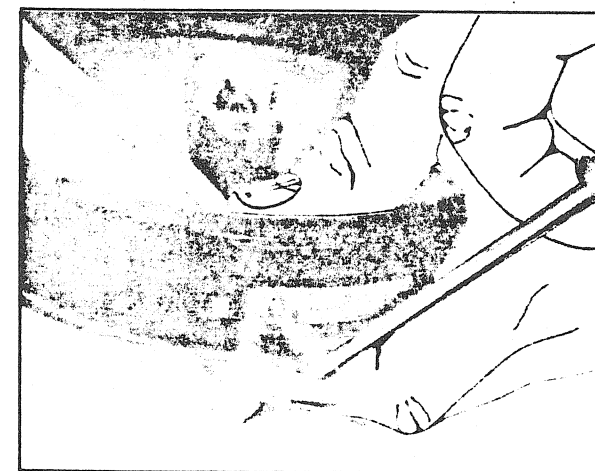

FIGURE 9
- Then slowly rotate the sheave counter-clockwise within the starter housing until the starter rope end is visible through the starter stop orifice of the rewind starter housing. (fig. 9).